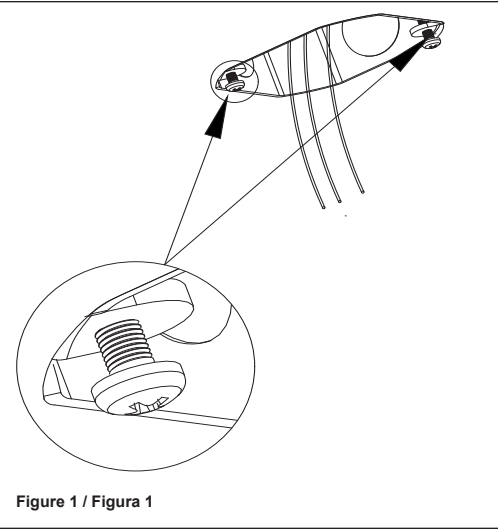

Figure 1 / Figura 1
1. Bring Hot, neutral, and ground power supply conductors(120V,60Hz) to the room side from junction box. Attach the supplied mounting screws into junction box mounting holes (see Figure 1).